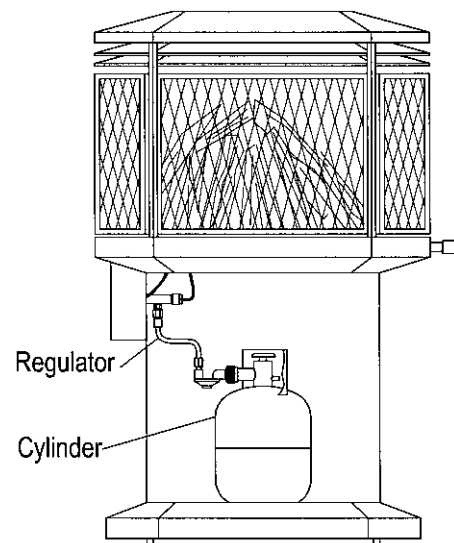

Figure 12-Cylinder set and pipe installation
- Set cylinder flat on base compartment (See FIG.12)